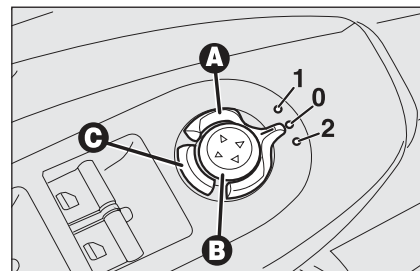

fig. 39
Use device **A**-**fig. 39** to select the required mirror:
When required (for example when the mirror causes difficulty in narrow spaces) it is possible to fold the mirrors by pressing button **C-fig. 39**.
To bring the mirrors back to driving position press again button **C-fig. 39**.
- ☐ move device **A-fig. 39** to position **2** (passenger door mirror selection);
Proceed as follows: fit the electronic key into the ignition device, engage reverse, move device **A-fig. 39** to position **2** (passenger door mirror selection).
The passenger door mirror will return automatically to its original position about 10 seconds after disengaging reverse, immediately after exceeding 10 km/h with forward gear or when moving device **A-fig. 39** to **0**.